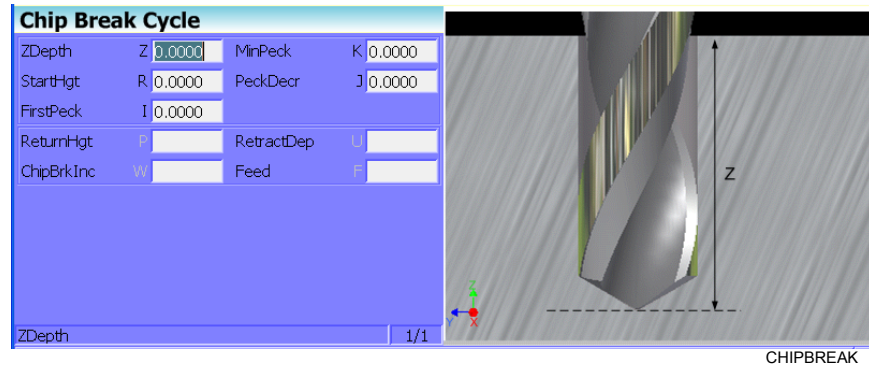

Figure 4-5, Chip Break Cycle Graphic Menu
2. Highlight **Chip Break** and press **ENTER** to display the Chip Break Cycle Graphic Menu. Refer to Figure 4-5, Chip Break Cycle Graphic Menu.